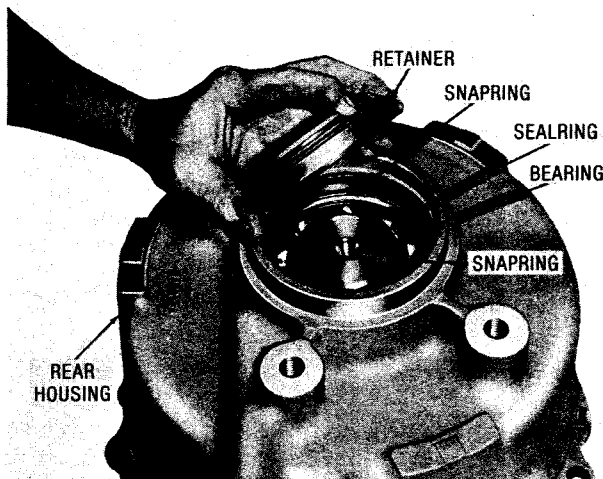

Fig. 7-45. Installing oil retainer (TRT-1)
(6) Install the internal snapping which retains the shaft rear bearing (fig. 7-45).
(7) Install the sealring into the groove in the rear bore of the rear housing (fig. 7-45). Install the retainer, chamfered side first.